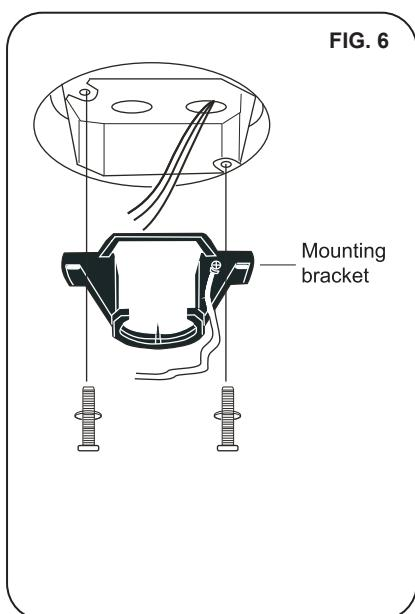

FIG. 6
Step 1. Attach the mounting bracket to the outlet box with two screws and washers provided with the outlet box. Make sure the mounting bracket is tight and secured. (Fig.6)